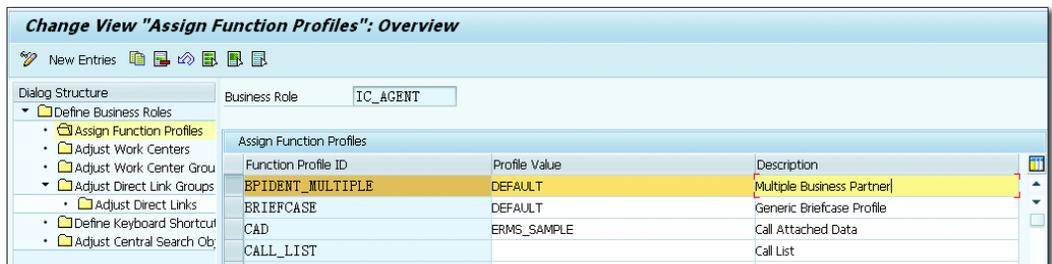

Figure 9.24 Assign Function Profile in the Business Role
9. The last step in the configuration is to assign the ACCOUNT IDENTIFICATION PROFILE to the FUNCTION PROFILE ID BPINDEPEND_MULTIPLE, as shown in Figure 9.24.